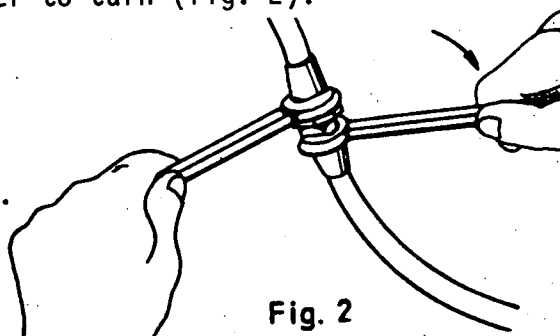

Fig. 2
a) *Disconnect the fixtures of the lines, using a back-up spanner and another spanner to turn (fig. 2).*